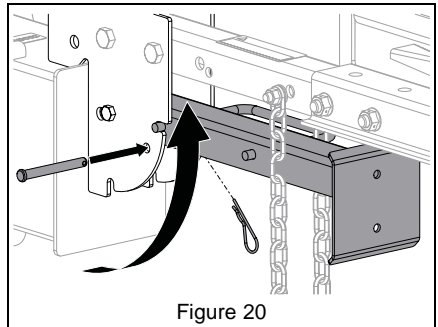

Figure 20
5. Move front jack stand to transport position and lock in place. See Figure 20.